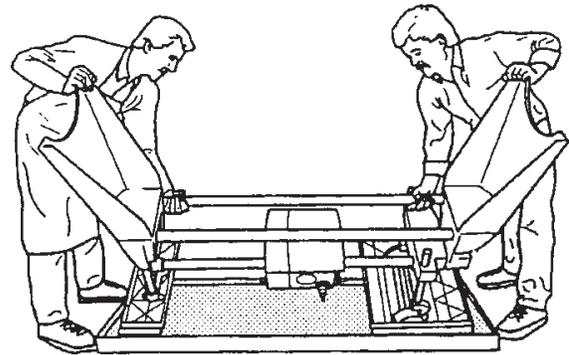
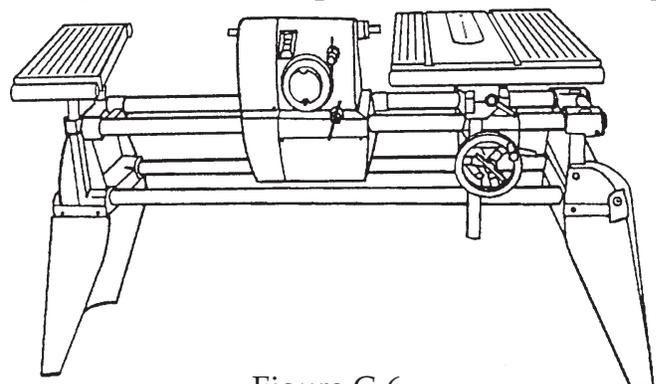

Figure C-5
Figure C-6
12. With a helper, turn the Mark 7 right side up, as seen in Figure C-5. Figure C-6 shows the Mark 7 upright.